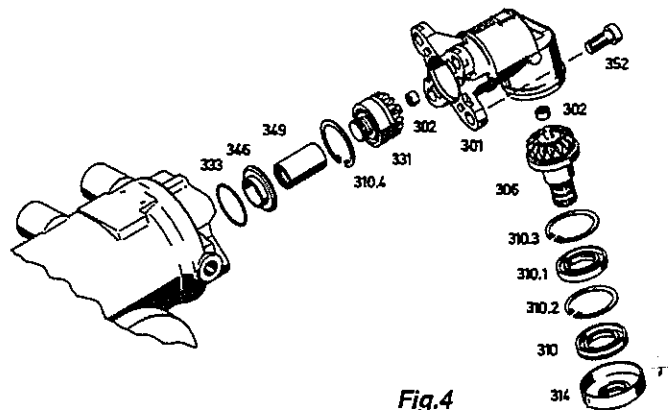

Fig.4
Unscrew hexagon screw (352) and remove complete bevel box (see Fig.4).
Remove protecting cap (314) and draw off shaft seal (310) with tool [33] (see Fig.4).
Unspring retaining ring (310.3) and remove any burr produced (*Fig.4*).